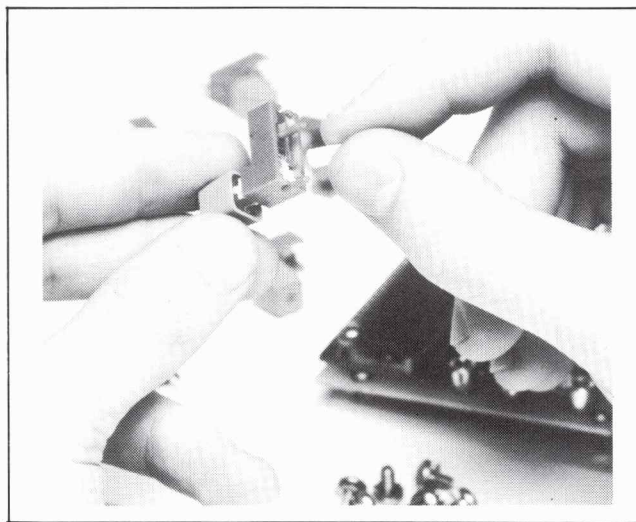

Figure 5-18. Tubing Insertion Into Switch Plunger.
f. Insert tubing (or rolled paper) into bottom of defective LED's switch plunger (Figure 5-18).